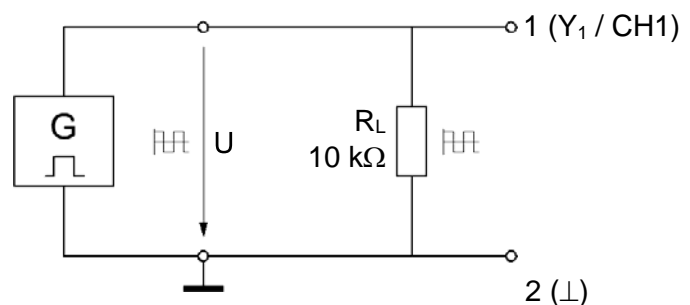

Fig. 8.3.2.1: Circuit with square-wave generator
The characteristic quantities will now be derived from measurements on a symmetrical square-wave voltage circuit as shown in Fig. 8.3.2.1.
- Assemble the circuit in Fig. 8.3.2.1 using the function generator, on the Electronic Circuits Board.